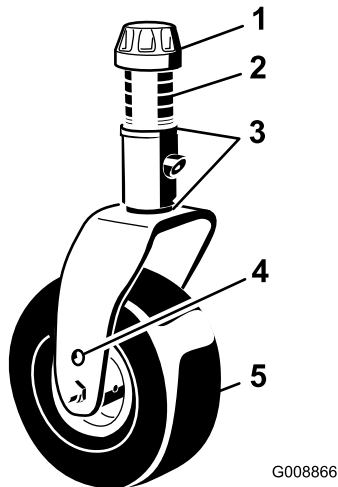
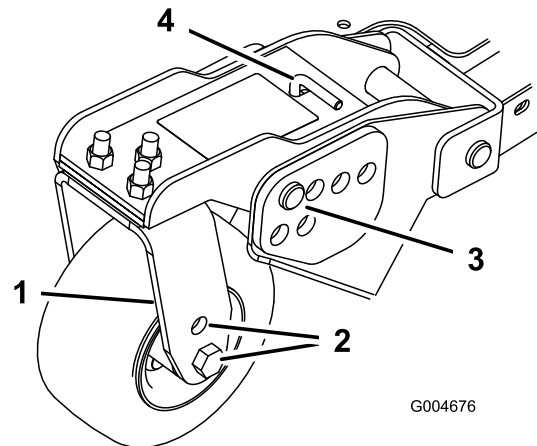
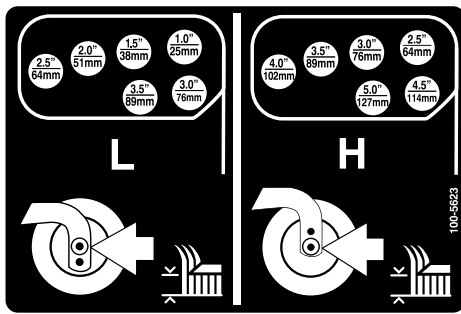

Figure 22
Figure 24
Figure 25
1. Position the caster-wheel axles in the same holes in all of the caster forks (Figure 22 and Figure 24).
2. Remove the tensioning cap from the spindle shaft and slide the spindle out of the caster arm (Figure 22).
6. Remove the hairpin cotter and clevis pins from the caster-pivot arms (Figure 24).
7. Rotate the tension rod to raise or lower the pivot arm until the holes are aligned with the selected height-of-cut bracket holes in the mower-deck frame (Figure 24 and Figure 25).